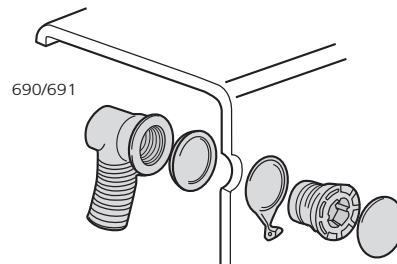

Fig.43 Connecting overflow outlets
**Step 1** – Remove end cap, threaded inlet, chain ring and washer (Fig.43)